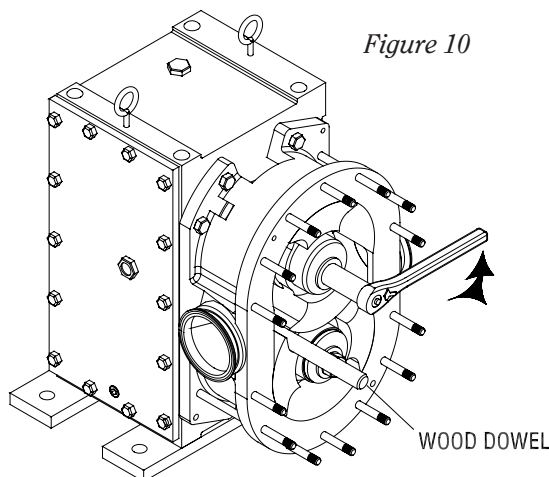

Figure 10
- To loosen the first rotor, place the wooden dowel between the rotors as shown in *Figure 10*.
- Remove the rotor bolt (51) and rotor cap (30) with o-rings (29 and 50) from the first rotor.